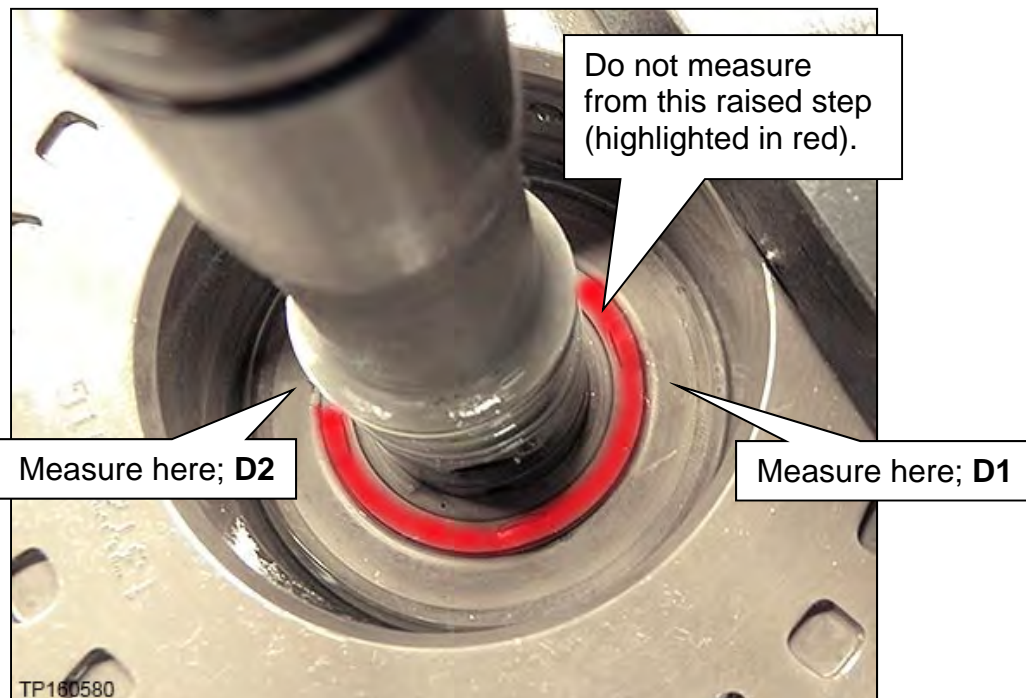

Figure 136
**NOTE:** Do not measure from the clutch assembly bore shown in red (Figure 136).